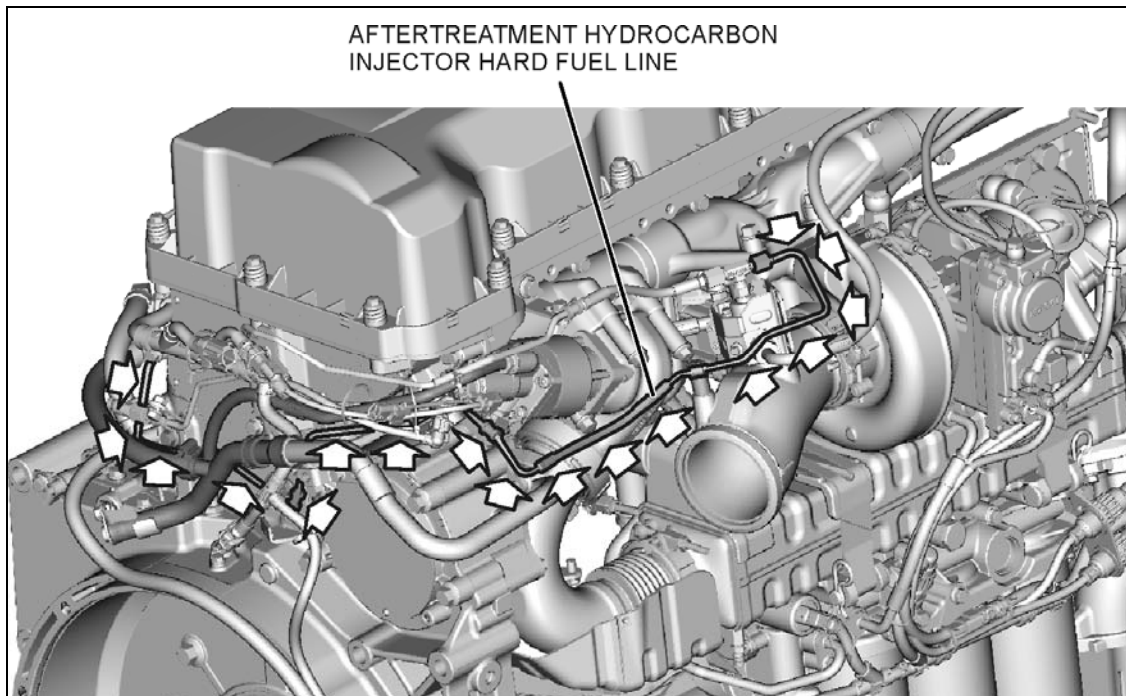

FIGURE 1
- 2) Locate the aftertreatment hydrocarbon injector hard fuel line on the engine (see figure 1).